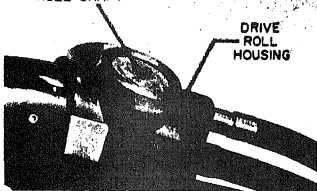

Figure 9. Adjusting Setscrew for Conical Roll Shaft
b. Back off adjusting set screw (Fig. 9) on right-hand disc of drive roll housing to relieve pressure on conical roll shaft.
j. Turnadjusting setscrew (Fig. 9) slowly clock- until conical roll presses on wire within grooved . Compression should be just enough for positive e drive.